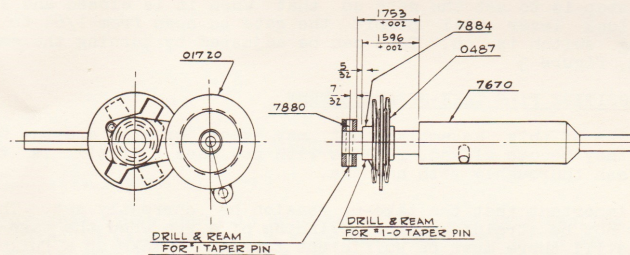

FIGURE 11 - INTERLOCKING SWITCH ASSEMBLY.
5. Place switch brush assembly onto the lower shaft and match the alignment marks. Refer to figure 11 and space the assembly so that the outer edge of switch brush assembly hub is 1.596 inches ($\pm .002$ inch) from the large diameter of starting lever. Hold securely in this position and drill and ream a hole diagonally to the old hole in shaft. The hole is to receive a No. 1-0 taper pin.